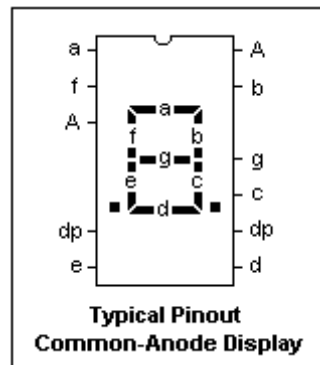

Figure 3: Common-Anode 7-Seg Display
In this activity, you are being introduced to a popular (used to be) display device, which is the seven segment display, commonly written as “7-Seg”. This device is packaged with 7 LED’s with TWO possible configurations, either, common-anode or common-cathode. In this activity, we are going to be using the Common-Anode (CA) type. The layout of the pins is shown in Figure 3.
Looking at Figure 3 and 4, we can see that, if we want to display a value of 2, we will need LED’s a, b, g, e and d to be turned ON, which means writing a value of ‘0’ to those pins.
NOTE: You must remember to connect the Common-Anode pin, labelled ‘A’ (in Figure 3) to a +5V source. This +5V source can be obtained from the Arduino board. There are two pins labelled as ‘A’. Only one of these ‘A’ pins needs to be connected to 5 V.
Refer to Figure 3 for the correct mapping of the 7-Seg pins to their appropriate LED's.